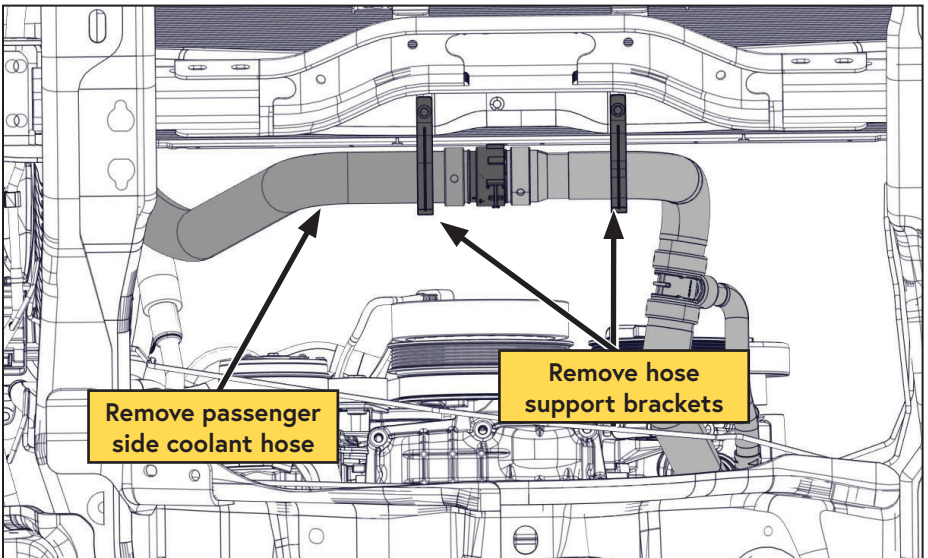

Figure 6 — Removing lower coolant hoses
- ☐ Remove the lower coolant hose support brackets (Figure 6).
- ☐ Disconnect and remove the passenger side lower coolant hose (Figure 6).